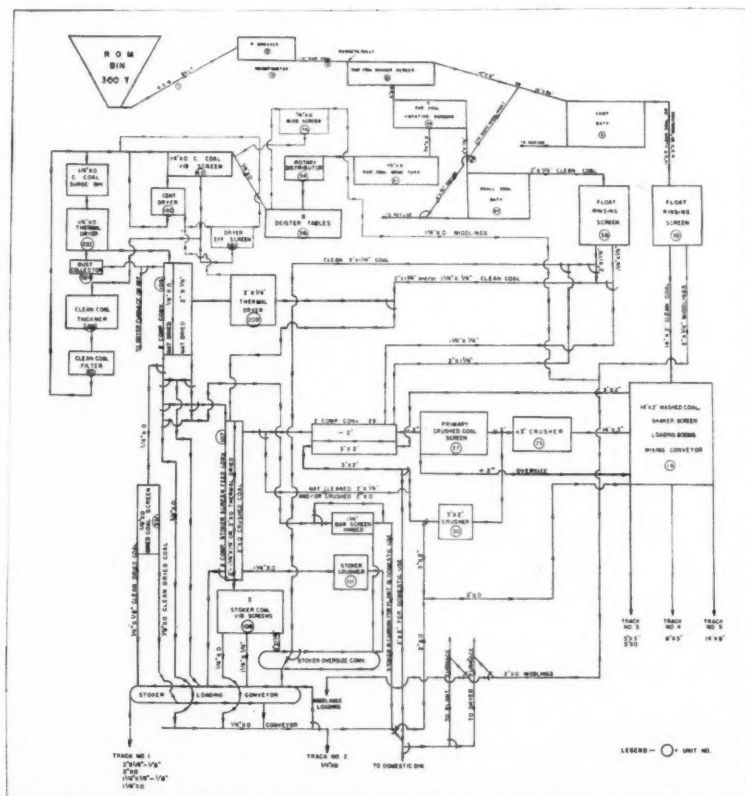

Fig. 2. Flow diagram showing the major preparation equipment at the Leatherwood No. 2 mine
Simplified flow diagram in figure 2, shows the major preparation equipment in the Leatherwood No. 2 plant and gives a general picture of the coal flow. At this point, it might be of interest to note that the entire 14-in. by 0 feed is washed in the Leatherwood No. 2 plant and that, according to all available information, this represents the widest size spread in coal washing practice up to this time. Raw coal from the run-of-mine bin enters the plant, at a rate of 400 tph, through a 12 by 18-ft McNally-Pittsburg rotary breaker (3)\* in which the top size of the feed is reduced to 14 in. A unique feature of the rotary breaker in this plant is the
\* Figures in parenthesis following each item of equipment mentioned in this discussion are Unit Numbers by which the various components may be located in Figs. 2 and 3. Units are identified as to size, type, model and manufacturer in Table 1.